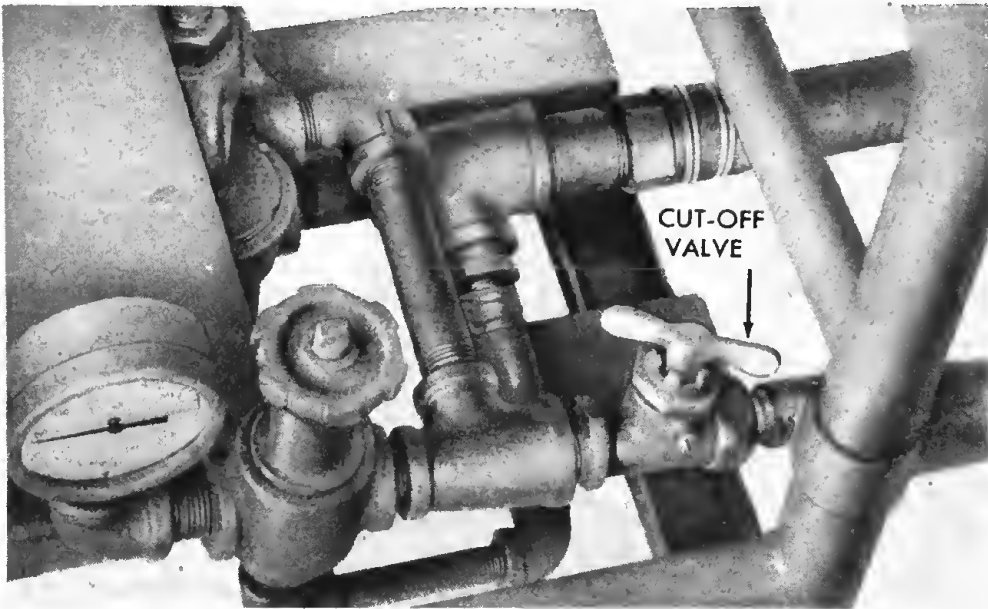

Figure 17—Cut-Off Valve
- (1) Submerge strainer end of suction hose in spray material.
- (2) Open cut-off valve (figure 17) permitting spray material to travel through hose to spray gun.
- (3) Turn handle of spray gun to right (clockwise) or left (counterclockwise) to select type spray desired.